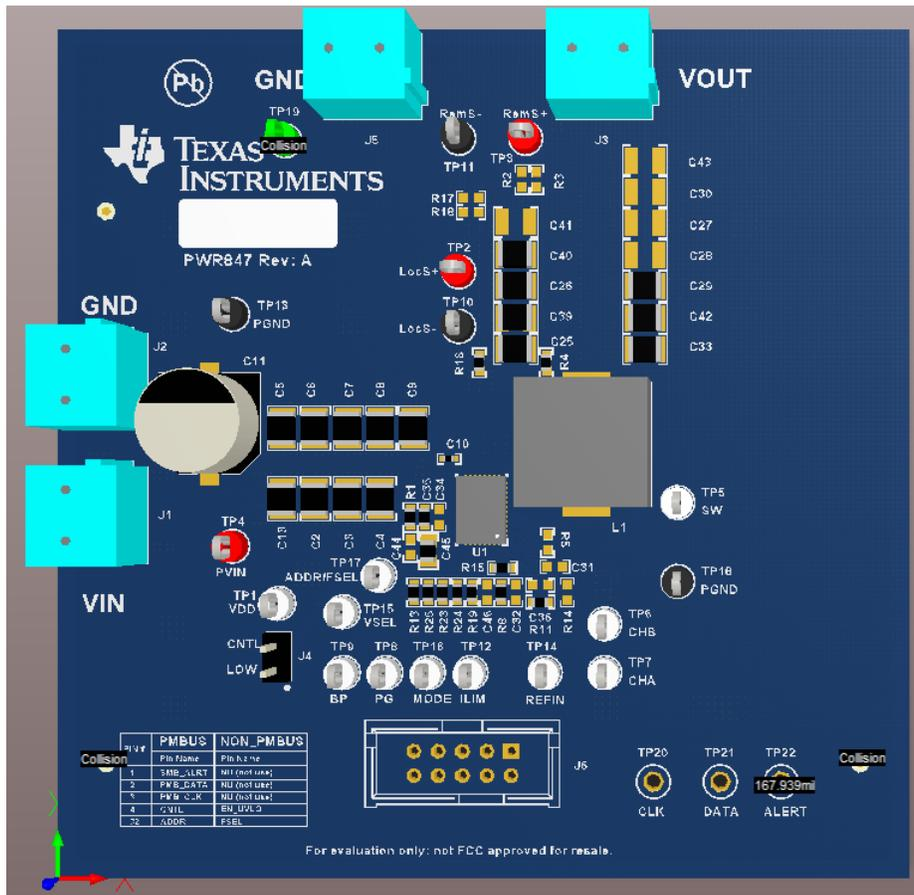

Figure 2. PWR-847EVM Overview
Multimeters: It is recommended to use two separate multimeters Figure 2. One meter is used to measure V_{IN} and one to measure V_{OUT} .
Output Load: A variable electronic load is recommended for testing Figure 2. It must be capable of 25 A at voltages as low as 0.6 V.
1. Connect VOUT to J3 and VOUT_GND to J5 Figure 2.
4. Connect VIN to J1 and VIN_GND to J2 Figure 2.